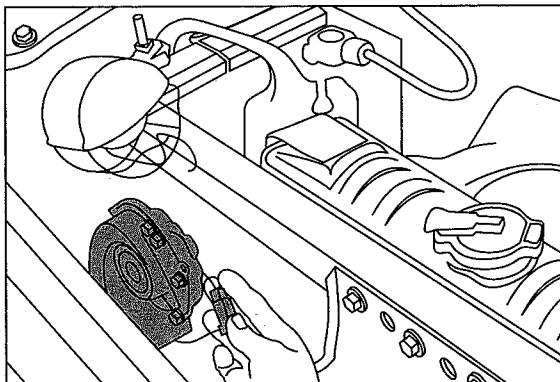

Figure 20-2:
- ✓ If the horn is stuck, your vehicle is producing what may be the worst noise it can make. *Before* this happens, have someone honk your horn until you can locate it under your hood. There are usually two horns. Each has a wire leading to it. If your horn gets stuck, pull these wires to stop the noise (see Figure 20-2) — sometimes you have to pull only one. When you have the horn fixed, tell the mechanic that you pulled the wires and find out why the horn got stuck. (If you can't get at the horn wires, disconnect one battery terminal or pull the fuse that goes to the horn to stop the noise.)